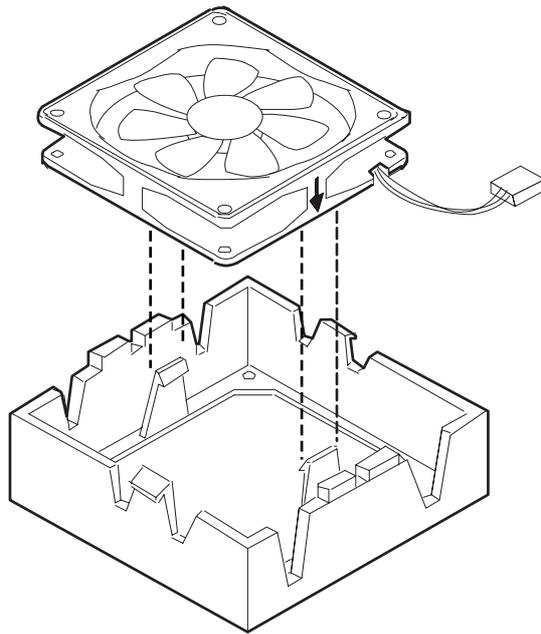

Figure 10-2 Front Fan Assembly
5. Remove the fan from the plastic housing by pushing the inner flexible tabs on the housing away from the fan. Retain the housing. Figure 10-2.